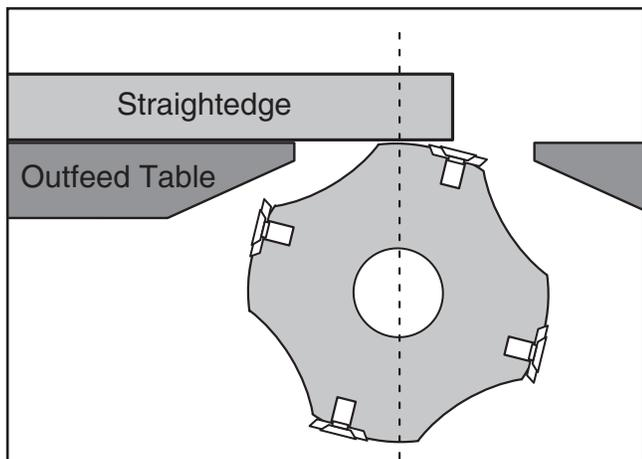

Figure 9. Checking cutterhead parallelism.
18. Using the straightedge and feeler gauge set, inspect the cutterhead parallelism with the outfeed table as shown in **Figure 9**. With the straightedge in position, raise or lower the outfeed table until the cutterhead body (not the carbide insert) just touches the straightedge.